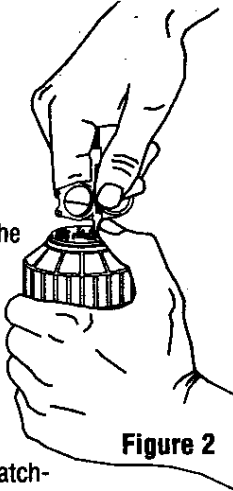

Figure 2
1. Insert the plastic end of the Orbit key into the pattern adjustment socket (Figs. 2 & 3).